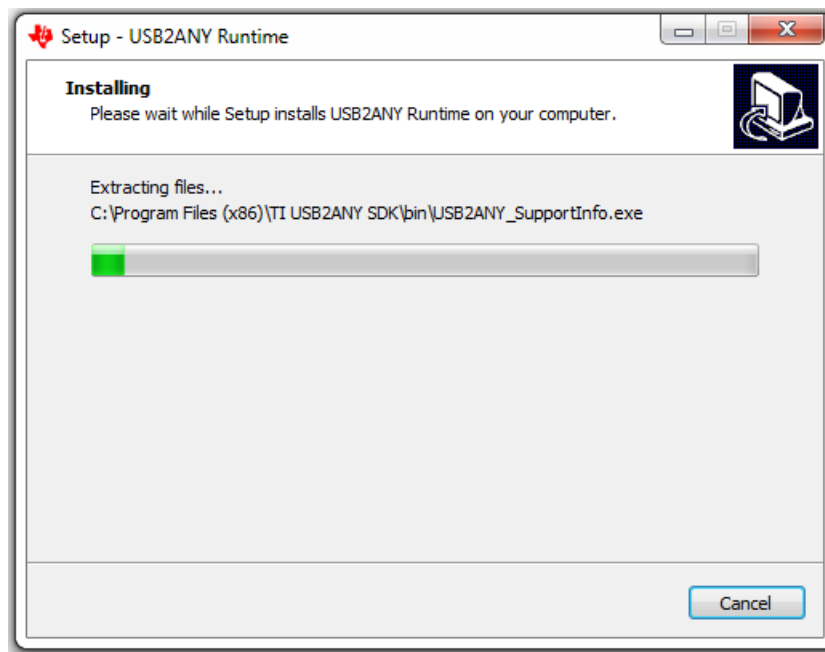

Figure 22. USB2ANY Installation Progress
- The installer begins self-extraction and proceeds with the installation as shown in Figure 22.